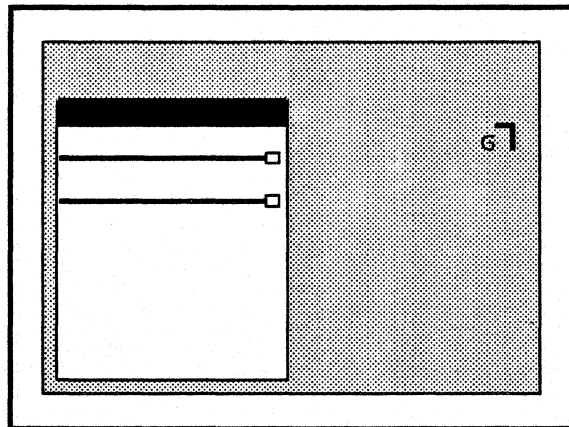

Figure 3.17
- 3) As you move the cursor on the display, it changes shape to show you the new corner. (Figure 3.17).